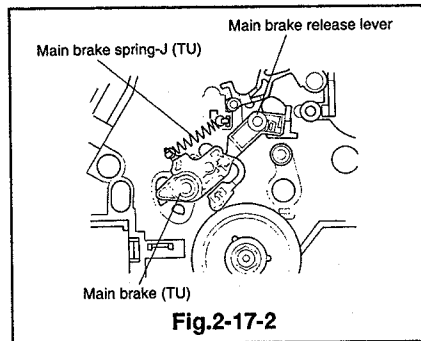

Fig.2-17-2
- 1 Install the main brake(TU) on the main plate assembly so that the coupling portion with the main brake release lever is as shown in Fig. 2-17-2.
- 4 Install the sub brake(SP) and the sub spring(SP). (Refer to Para. 2-14 for the installation method.)